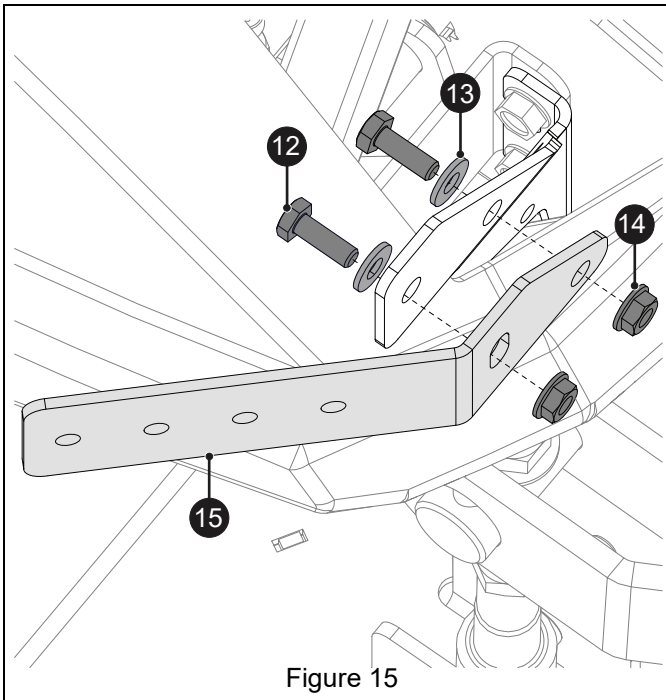

Figure 15
3. Attach rod bracket plate (Item 15) to headlight bracket with two 1/4" x 3/4" hex bolts (Item 12), two flat washers (Item 13) and two 1/4" locking center flange nuts (Item 14). See Figure 15.